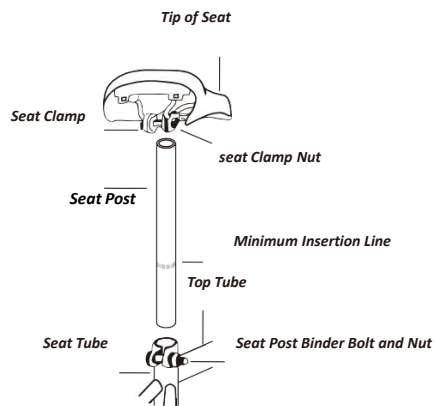

fig.4
Step 2: Seat Assembly (refer to fig.4)